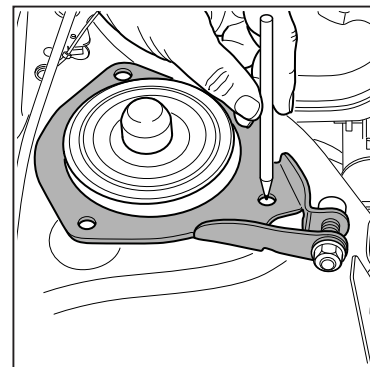
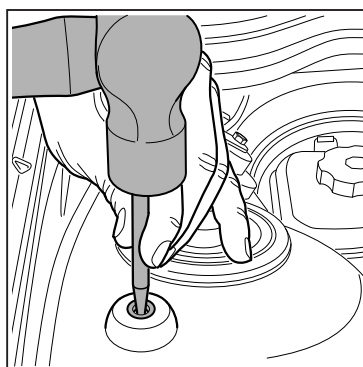

Fig 2.
Fig 3.
3. Place end brackets on top of strut towers, and mark drilling positions as per Fig 2, and centre punch as per Fig 3.